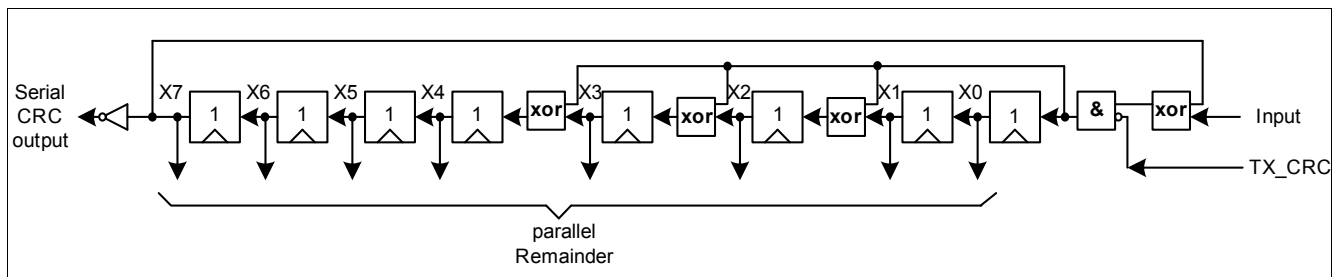

Figure 4-14 Fast CRC polynomial division circuit
- Generator polynomial:  $X^8+X^4+X^3+X^2+1$ , but for the CRC generation the fast-CRC generation circuit is used (see Figure 4-14)